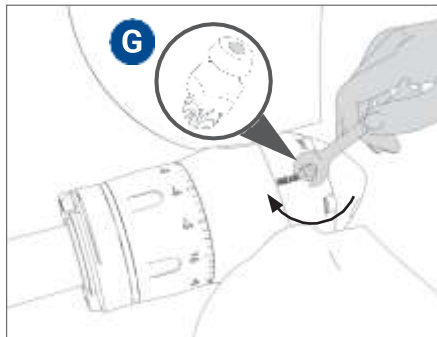

FIG. 43 Screwing on the grease nipple "G"
- Screw in the grease nipple **G** supplied with the propeller into the hole (**Fig. 43**).